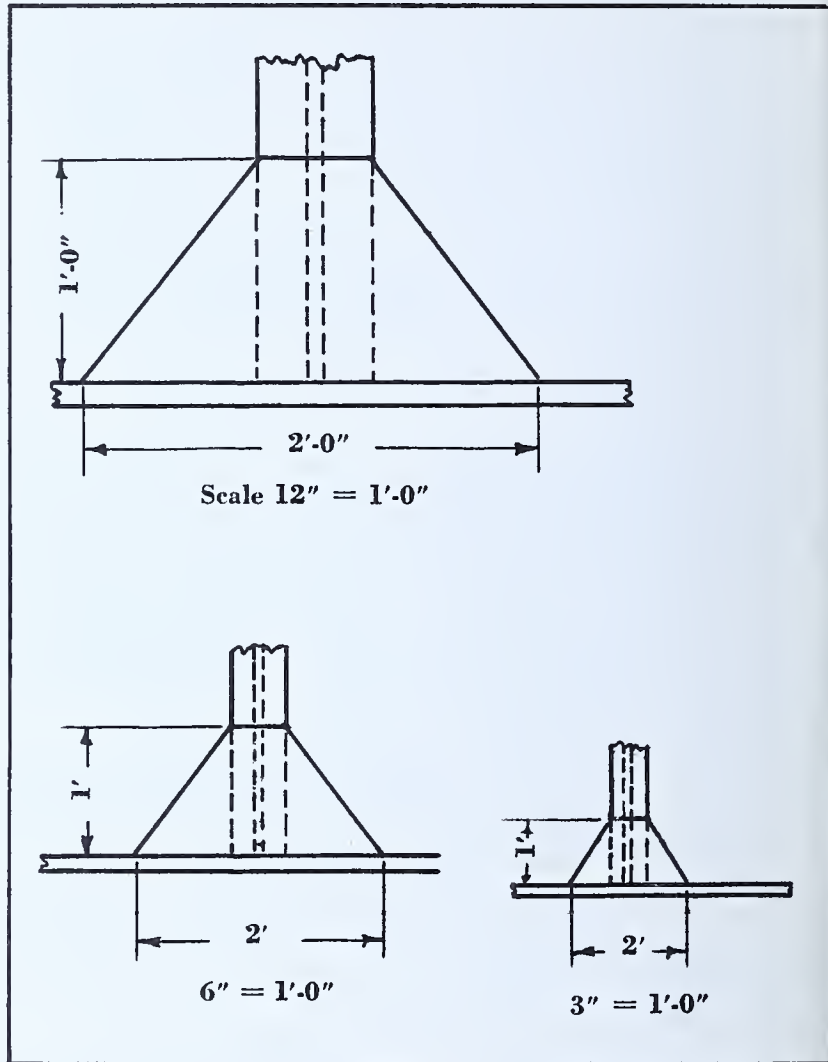

FIG. 172
4. Make a distinction in weight between the dimension lines and edge lines. See Figure 172.
6. Horizontal dimensions should read from the bottom; vertical dimensions should read from the right side of the drawing. See Figure 172.